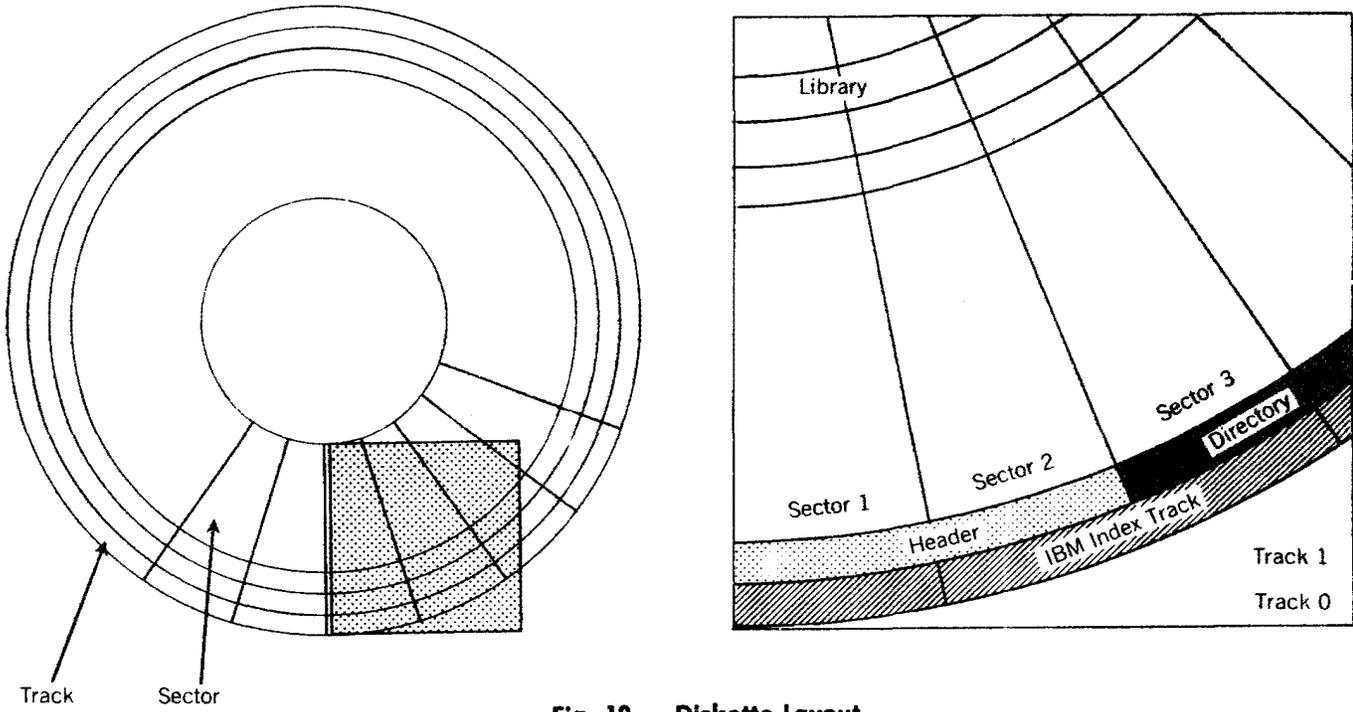

Fig. 10 — Diskette Layout
**9.02** Each diskette is composed of 77 tracks, and each track contains 26 sectors. Data is stored in the "Library" section of the diskette where a listing of all files is kept in the directory (Fig. 10).